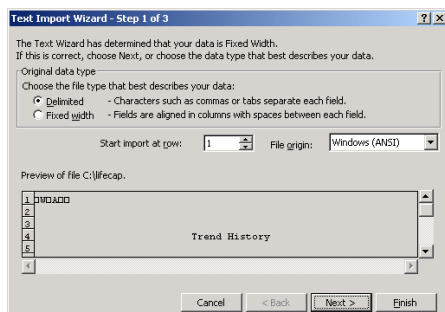

Figure 19. Specifying the Data Type
3. With *All Files* selected in the *Files of Type* box, select the text file which contains the Microstream data, for example, patient1.txt. The Text Import Wizard is displayed in Figure 19. Specifying the Data Type, below.